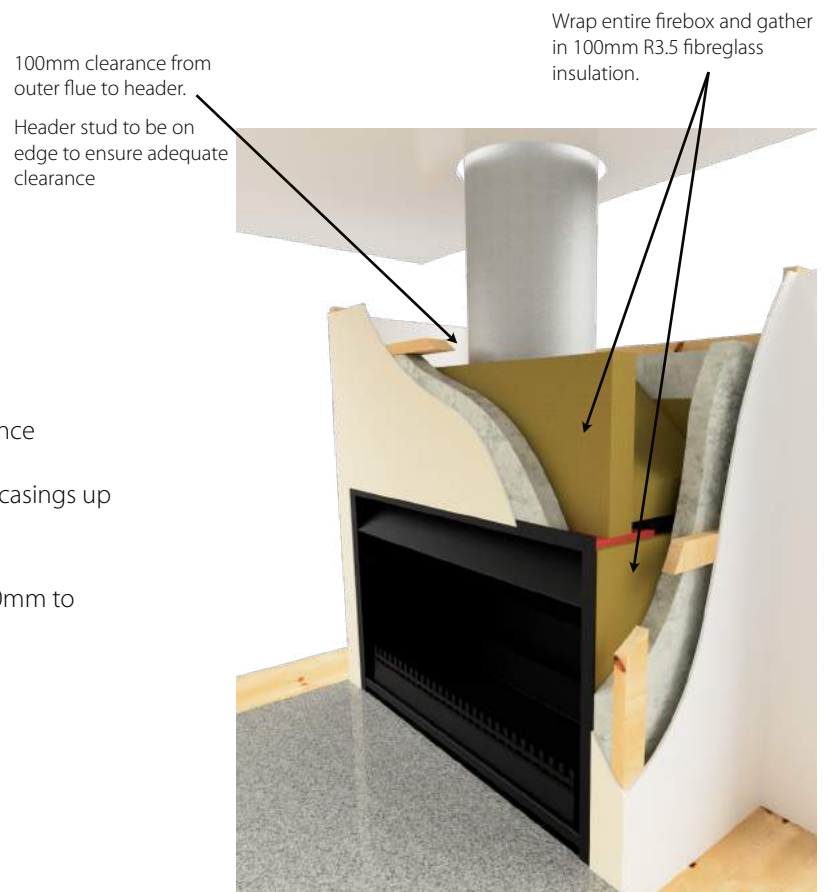

Fig 3.5
- The appliance rear wall, the gather, sides and all other external parts of the appliance must be wrapped in 100mm R3.5 insulation between the PowerPanel enclosure up to the height of the flue outer casing. Fig 3.5